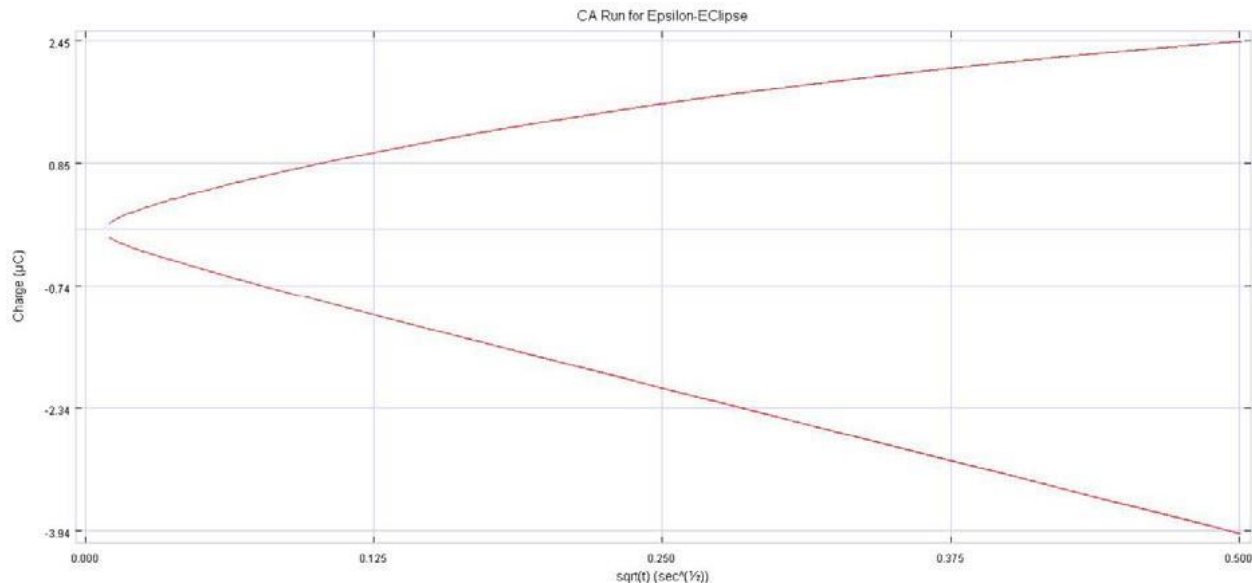

Figure 11 - Q vs. sqrt(T) plot for Chronoamperometry/Chronocoulometry
12. The data from a **Chronoamperometry/Chronocoulometry** experiment can be plotted in a number of different formats, which can be selected using **Select Graph Type** in the graph menu, or by right-clicking on the graph. The **Q vs. sqrt(T)** plot is shown in Figure 11.